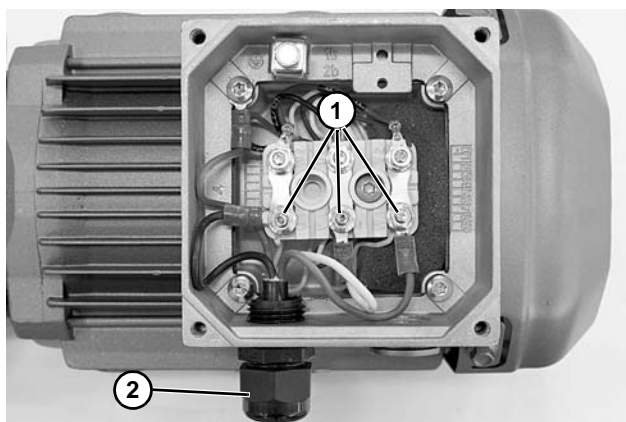

Figure 11
2. Record wire colors on terminals 1, 2 and 3 (Figure 11, item 1). Loosen terminals and remove wires.
3. Loosen cord grip (Figure 11, item 2) and remove power cord.